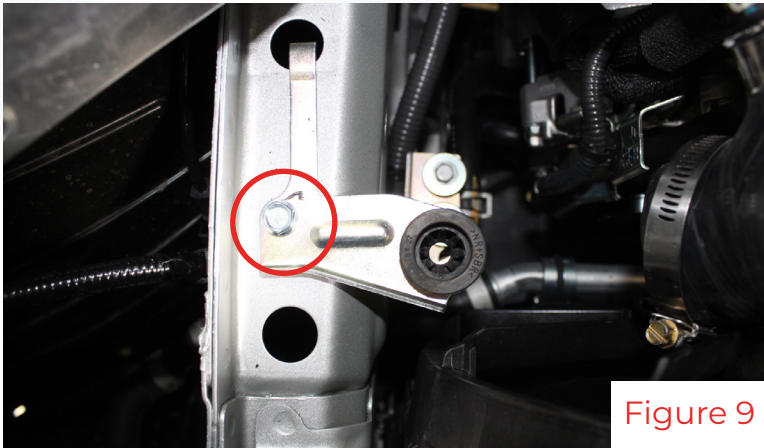
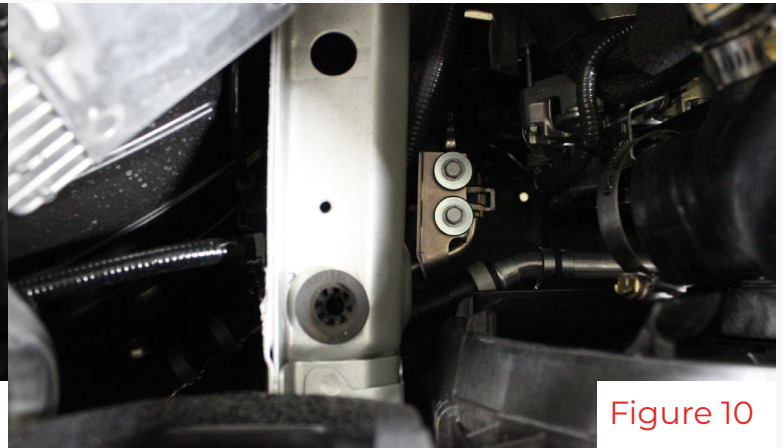

Figure 9
Figure 10
6. Remove the M6 bolt and take the grommet out of the bracket(fig 9). Install the grommet into the forward most hole in the frame rail(fig 10). The bracket will not be reused.